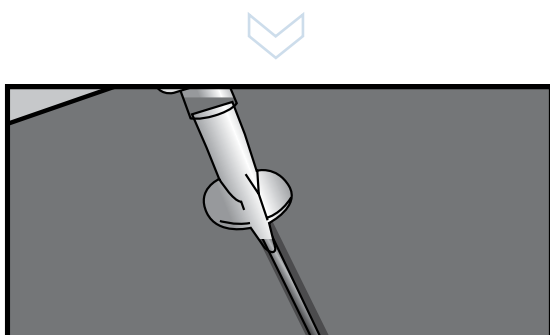

Figure 13c
- » Insert the custom application tip into the seam of the pavers until the depth guide (washer) comes into contact with the top of the pavers (Fig. 13c).